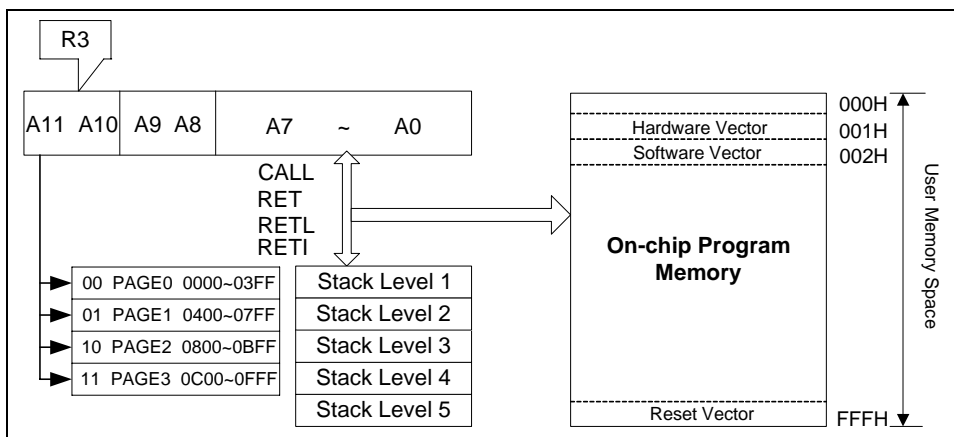

Fig. 5-2 Program Counter Organization
- The structure is depicted in Fig. 5-2.